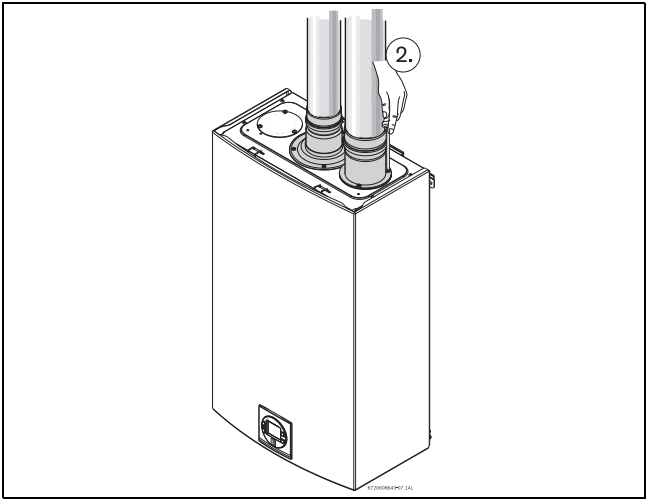

Fig. 21 Inlet connection
- Attach the combustion air inlet accessory to the top of the unit fig. 21 (position 2) using the 3 screws and gasket provided, and install 3" air intake pipe over the accessory.